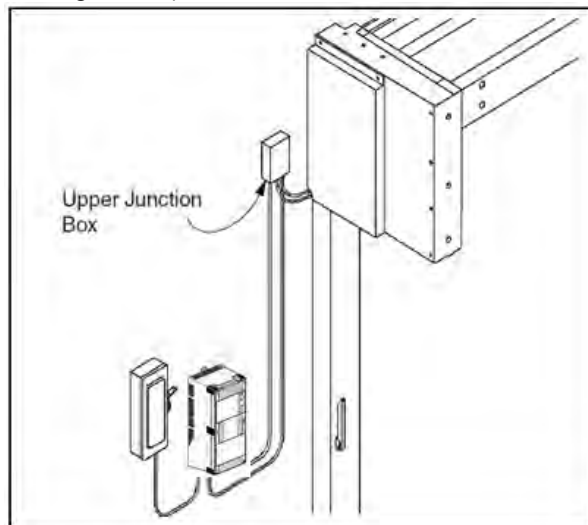

Figure 21
2. Remove the cover from the upper junction box located near the left side column. (See Figure 21.)